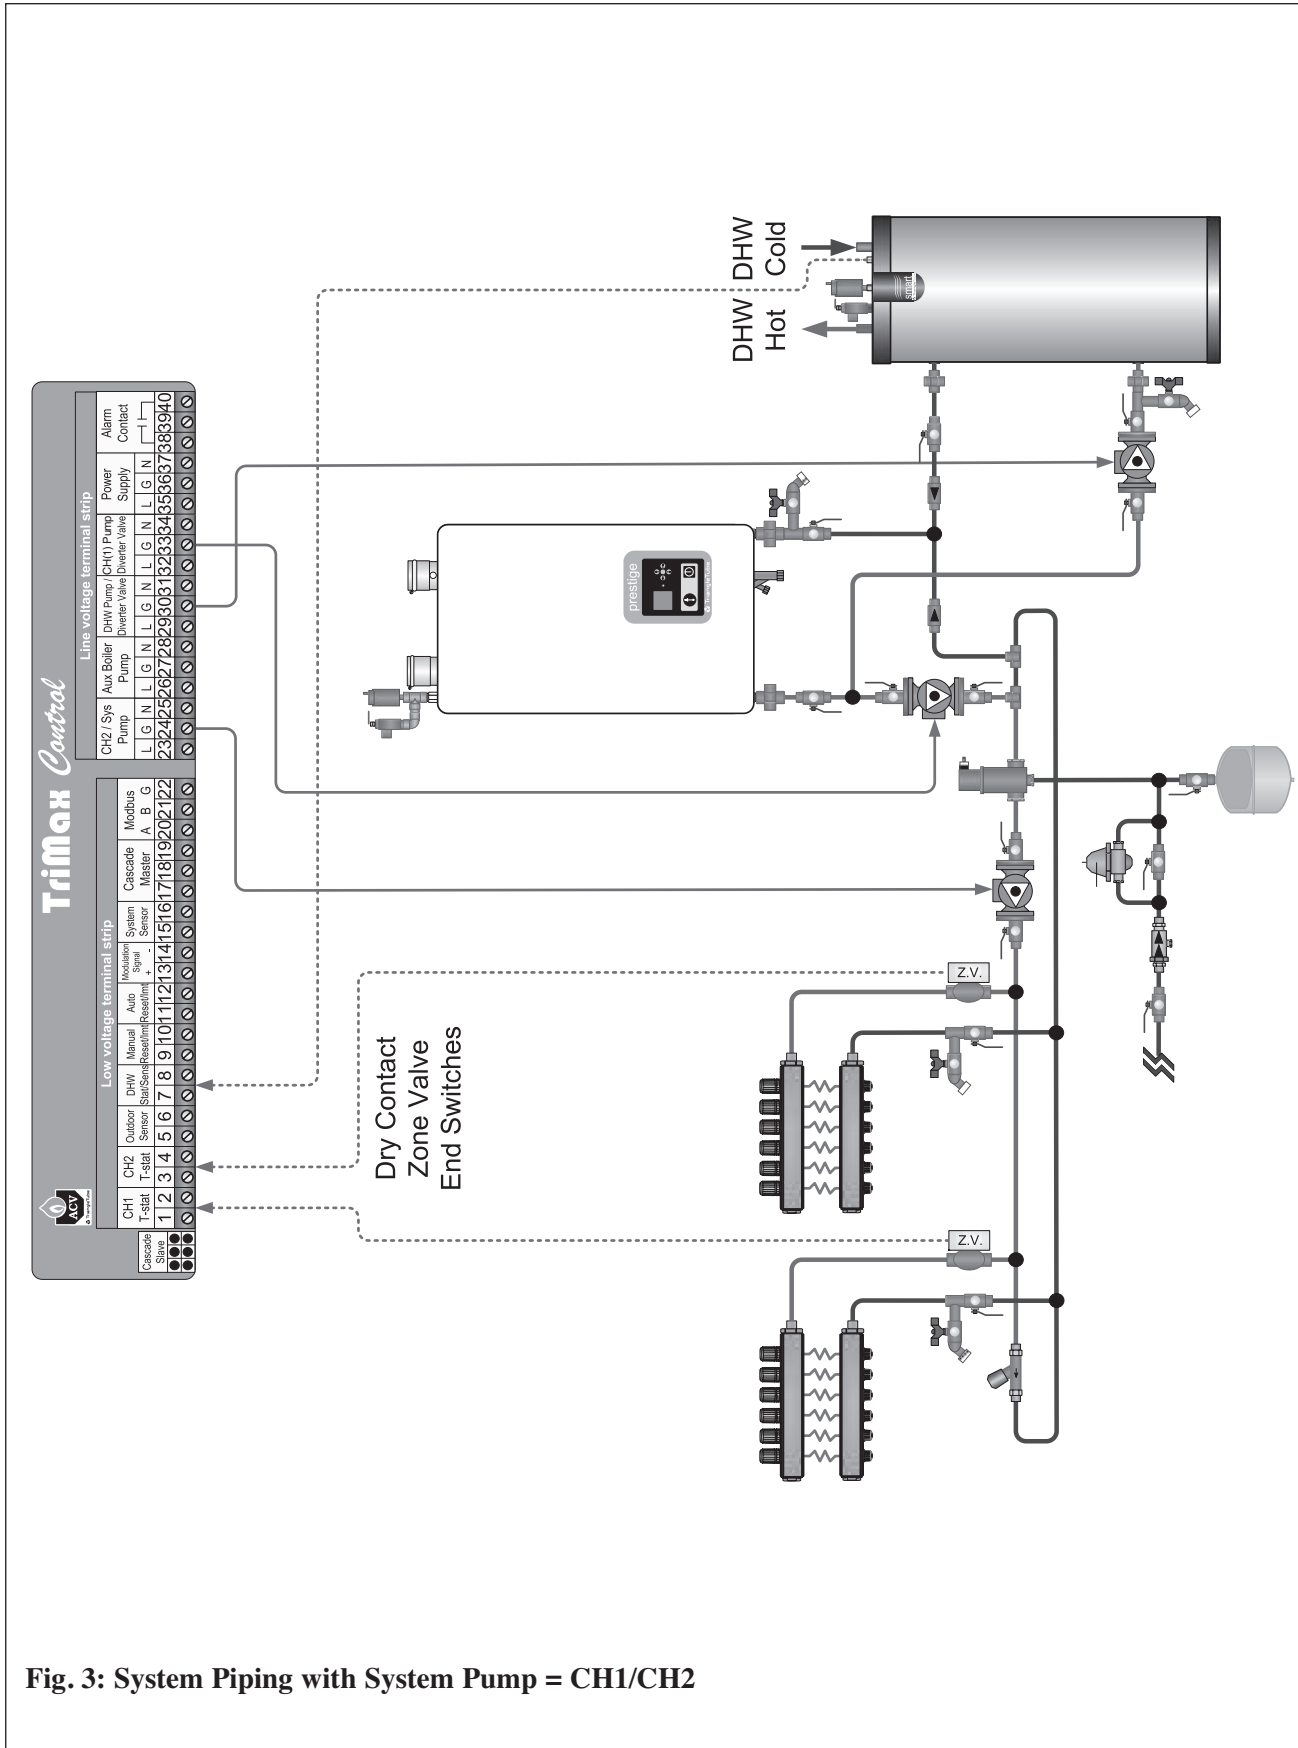

Fig. 3: System Piping with System Pump = CH1/CH2
- **CH1/CH2** – The system pump will only be enabled for a CH1 or CH2 central heating call. Figure 3, page 12 illustrates a system zoned with zone valves requiring this setting.